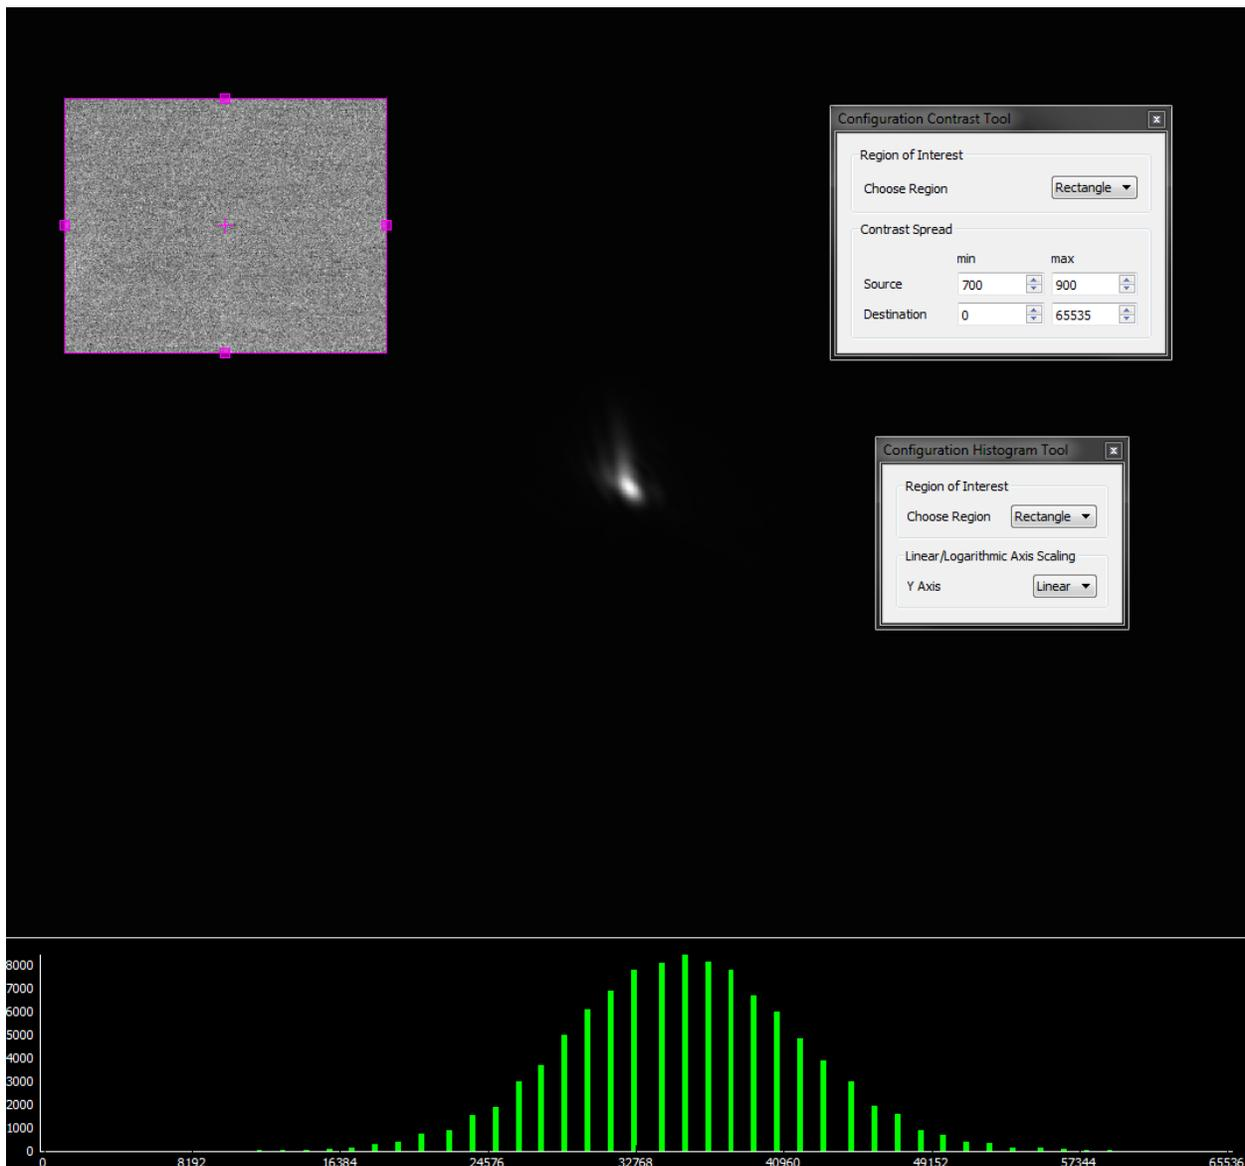

Figure 2: Noise level determination by using the contrast and histogram tool.
- one can see a Gaussian distribution at the histogram window (see Figure 2)